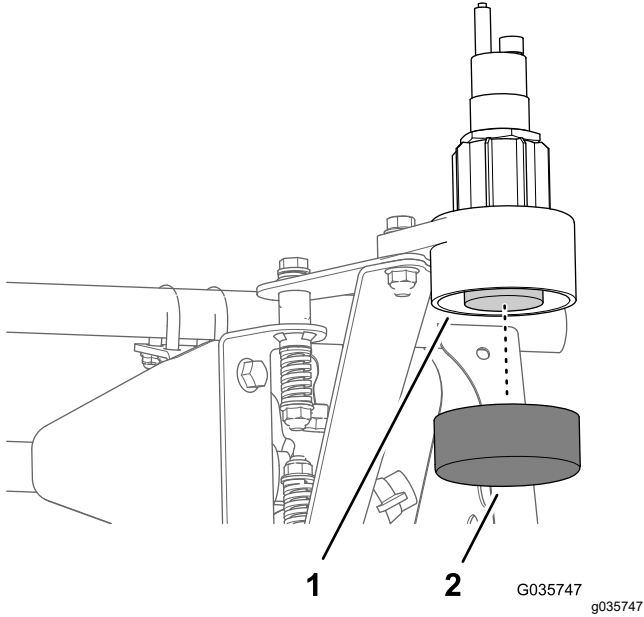

Figure 46
1. Install the cap onto the bottom of the lower housing (Figure 46).